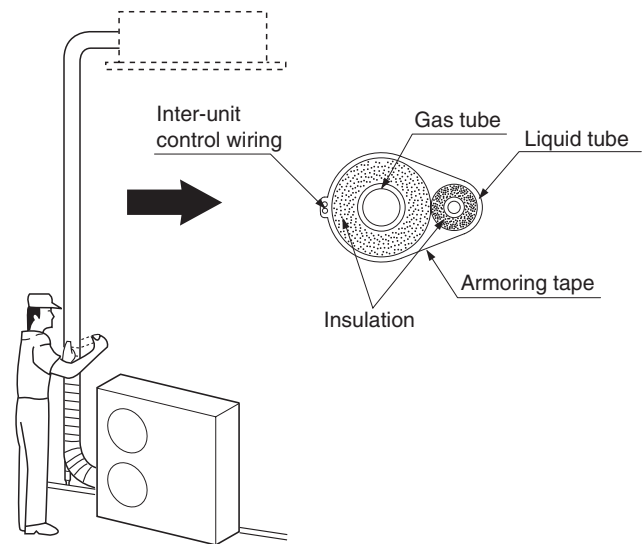

Fig. 1-24
- (1) At this time, the refrigerant tubes (and electrical wiring if local codes permit) should be taped together with armoring tape in 1 bundle. To prevent condensation from overflowing the drain pan, keep the drain hose separate from the refrigerant tubing.
- (2) Wrap the armoring tape from the bottom of the outdoor unit to the top of the tubing where it enters the wall. As you wrap the tubing, overlap half of each previous tape turn.
- (3) Clamp the tubing bundle to the wall, using 1 clamp approx. each meter (3 feet). (Fig. 1-24)